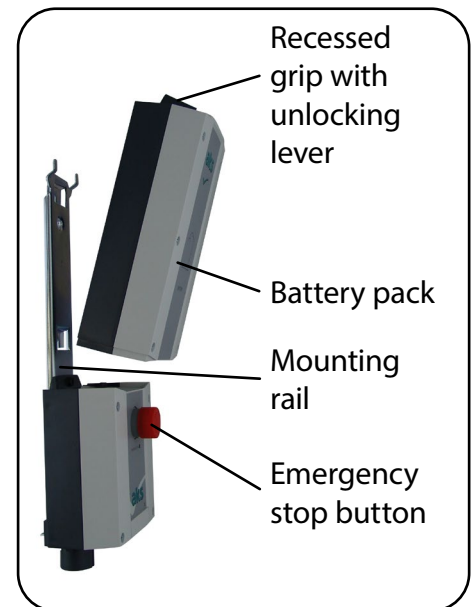

Fig. 8.7.01 – Battery pack
2. Reach into the recessed grip on the battery pack from above and pull the unlocking lever up with your fingers (Fig. 8.7.01).
3. At the same time, tilt the battery pack slightly away from the mounting rail and then pull it upward out of the mounting (Fig. 8.7.01).